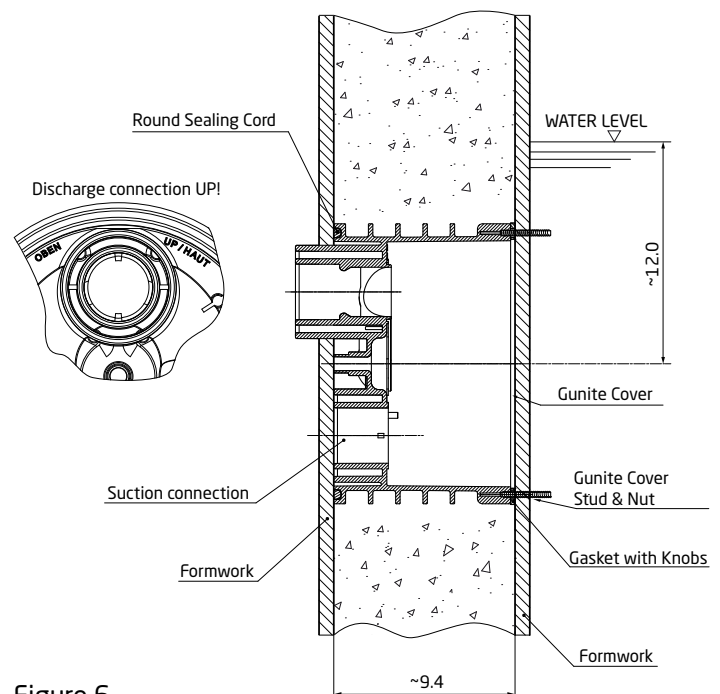

Figure 6
- Place the jet housing between the steel rebar with the back of the jet housing against the hole in the outer wall formwork. Jet housing location is very important (See Figure 6).
- Slide the inner wall formwork over the studs in the jet housing through the pre-drilled holes. Secure the formwork to the jet housing with four (4) M8 washers (part #32) and four (4) M8 nuts (part #33).
- Mount the guniting cover to the front of the jet housing using the four (4) M8 x 80mm studs (part #31), four (4) M8 washers (part #32) and four (4) M8 nuts (part #33). Tape the edge of the guniting cover around the entire jet housing to keep guniting out of threaded inserts and out of the jet housing.
- Place the jet housing between the steel rebar. Jet housing location is very important (See Figure 6).